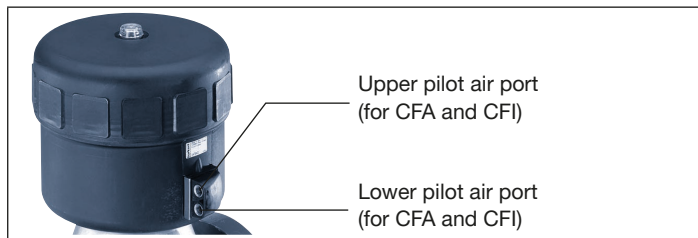

Fig. 5: Pilot air port
- Pressurise lower pilot air port (see “Fig. 5”) with compressed air (value as indicated on the type label). This is required to detach the diaphragm without damage from the body.
- Pressurise lower pilot air port (see “Fig. 5”) with compressed air (value as indicated on the type label).
- Pressurise upper pilot air port with compressed air (value as indicated on the type label) (see “Fig. 5”).